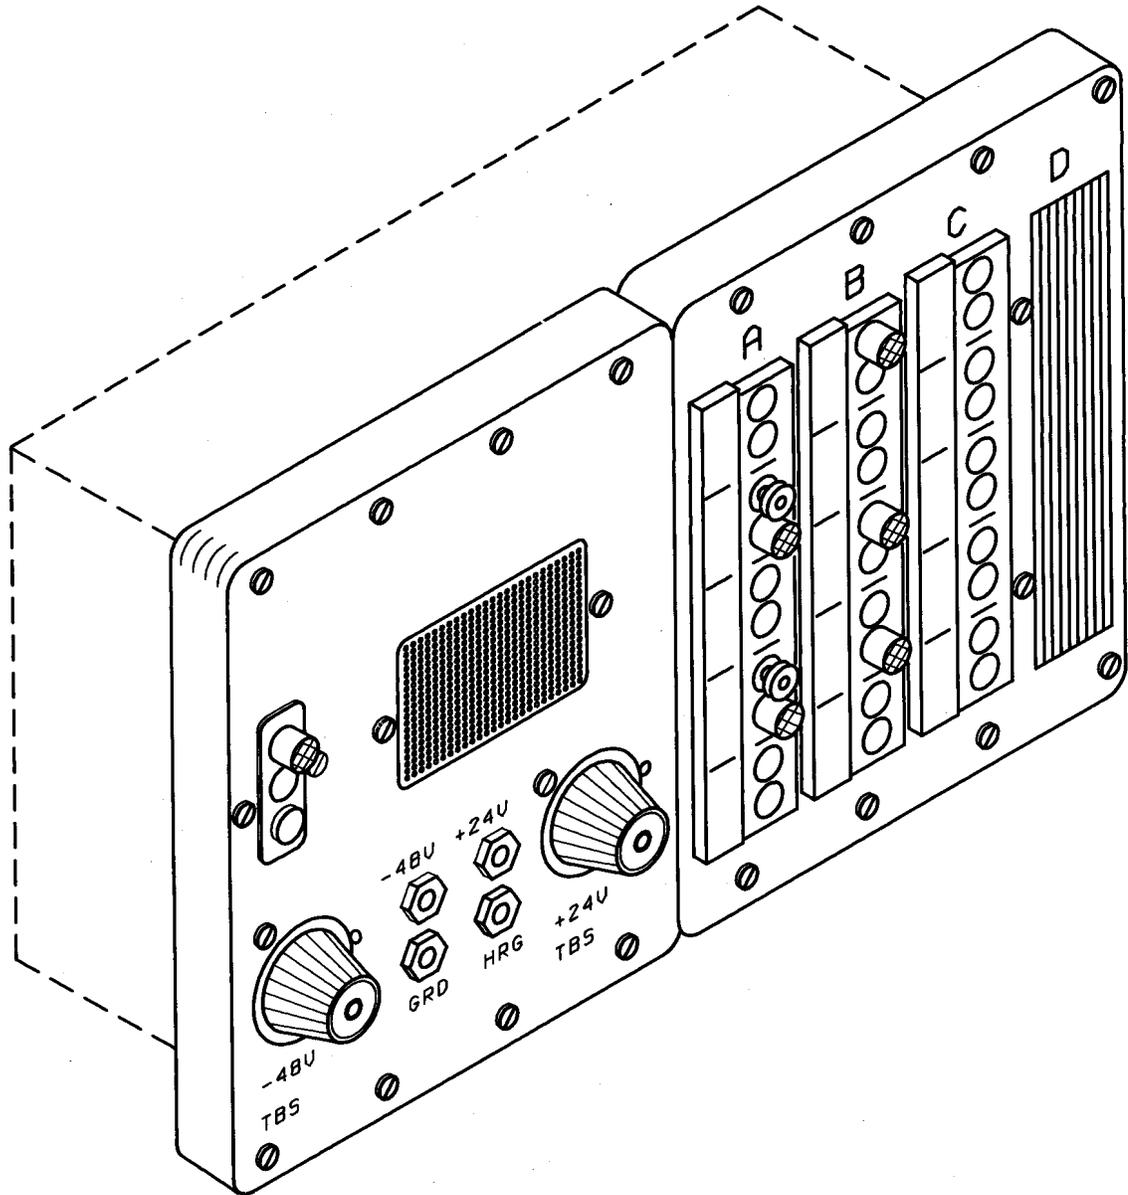

Fig. 9—KS-21316-L8 and ED-6C110-10 GRP. 23 Test/Talk Panels
10.01 Figures 9, 10, and 11 show some of the jack panels used on the COSMIC II main distributing frame. All the miniature test/talk panels are mounted on the COE modules only. They are equipped with various combinations of test and talk jacks.
10.02 Figure 9 shows two panels, one equipped with a transmitter to the test desk, battery and ground test source, and the other equipped with talk jacks. The panels mount on the front of the frame on the COE modules.